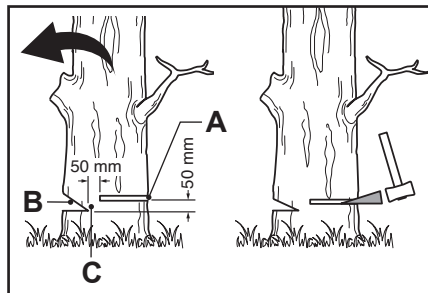

Fig. 27
Make the notch (Fig. 27, B) 1/3 the diameter of the tree, perpendicular to the direction of falls (Fig. 27). Make the lower horizontal notching cut first. This will help to avoid pinching either the saw chain or the guide bar when the second notch is being made.
- Make the felling back cut (Fig. 27, A) at least 50 mm higher than the horizontal notching cut (Fig. 27). Keep the felling back cut parallel to the horizontal notching cut. Make the felling back cut so enough wood is left to act as a hinge. The hinge wood (Fig. 27, C) keeps the tree from twisting and falling in the wrong direction. Do not cut through the hinge.